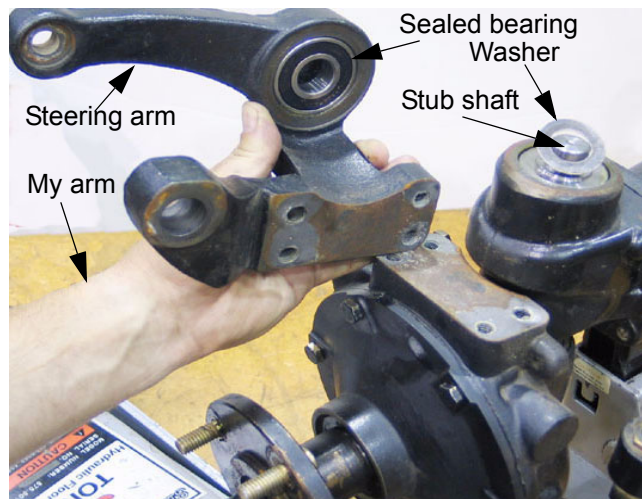

Figure 7.5
- 7.5. Lift the steering arm off of the kingpin housing and the stud for the steering cylinder. See Figure 7.5.